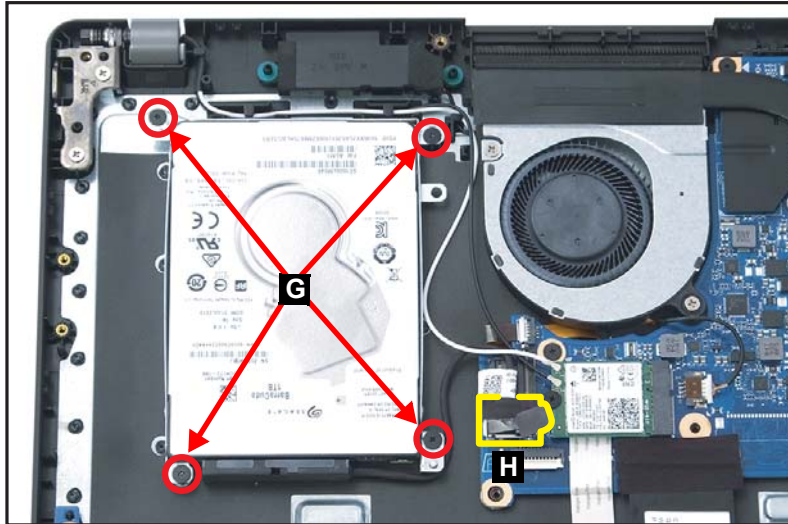

Figure 1-107. Replacing the HDD Module
5. Install and secure four (4) screws (G) to the HDD bracket (Figure 1-107).
6. Connect the HDD cable to the mainboard connector (H) (Figure 1-107).